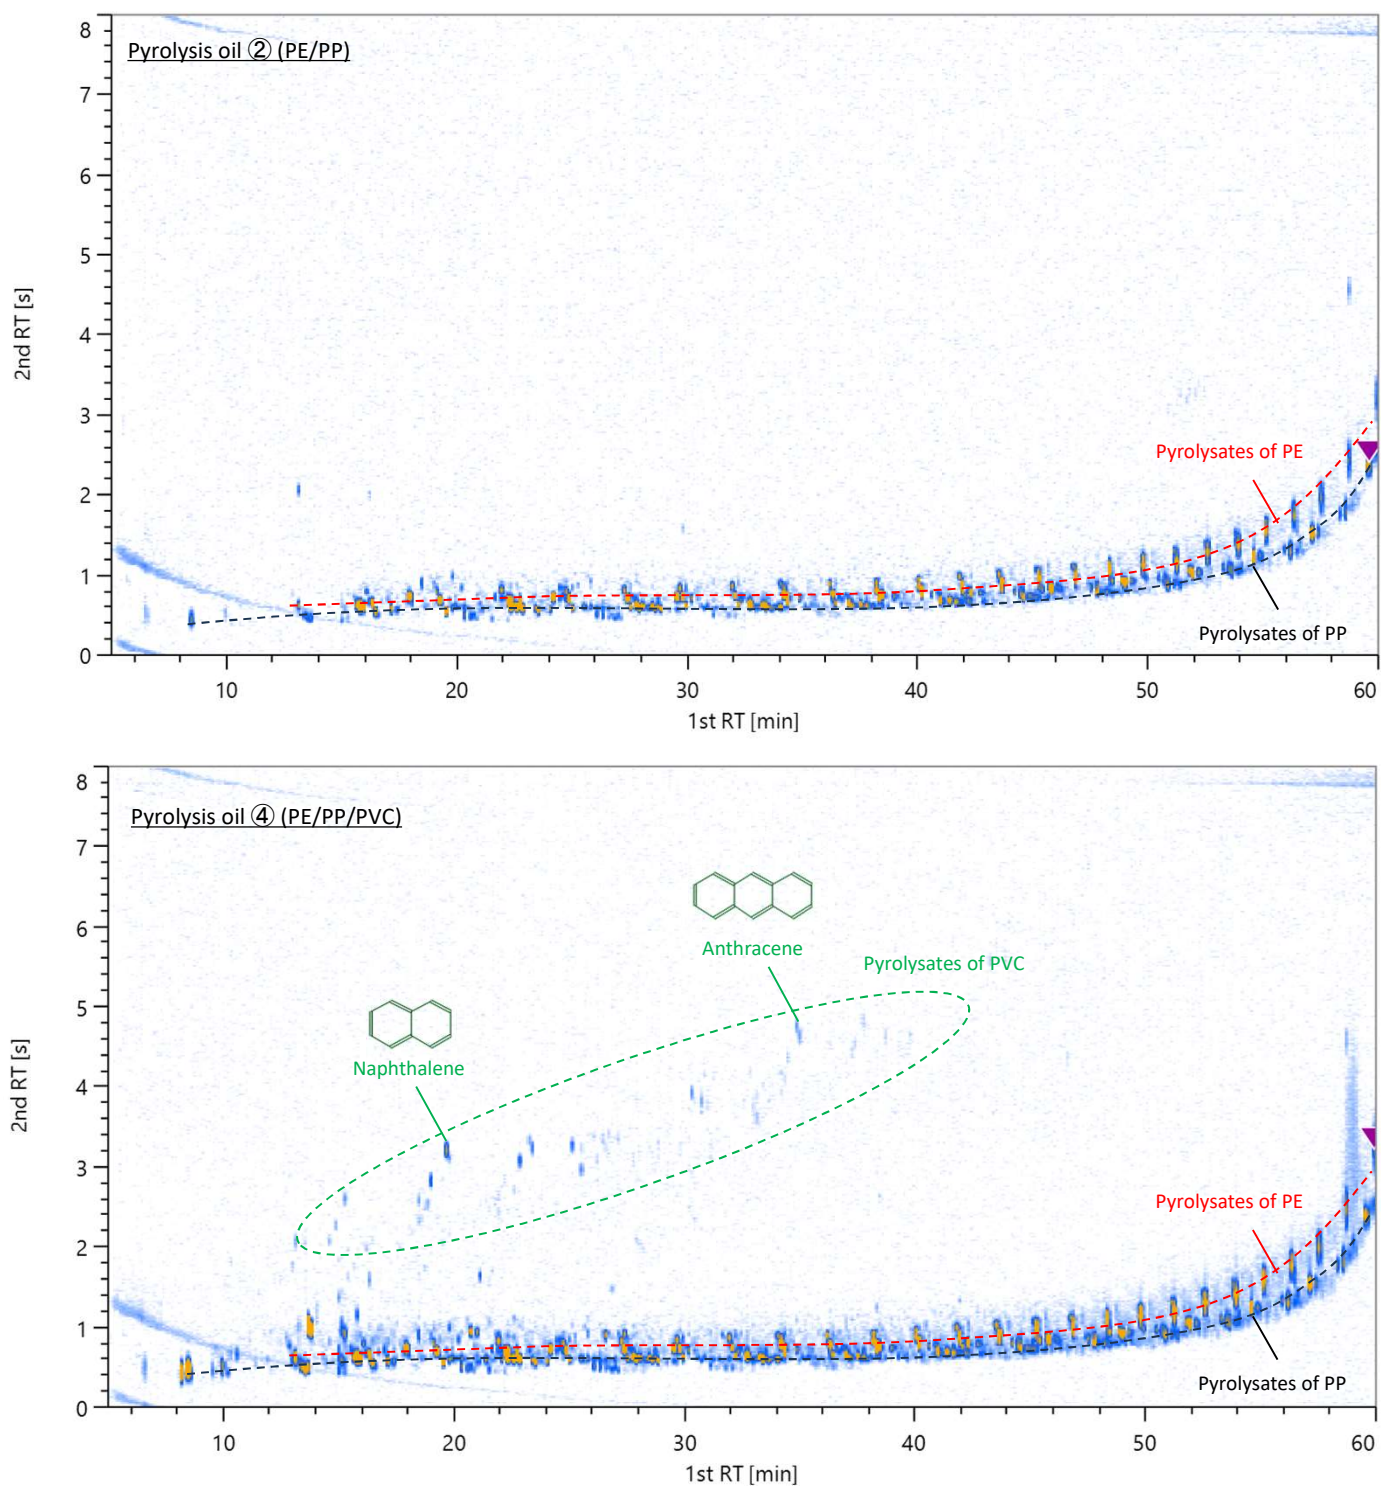

Figure 2 2D chromatograms of pyrolysis oil ② and ④
Figure 2 shows the 2D chromatograms of pyrolysis oils ② (PE/PP) and ④ (PE/PP/PVC). In addition to the main components, the pyrolysates of PE/PP, trace components such as naphthalene and anthracene, which are the pyrolysates of PVC, could also be easily confirmed in the 2D chromatogram.